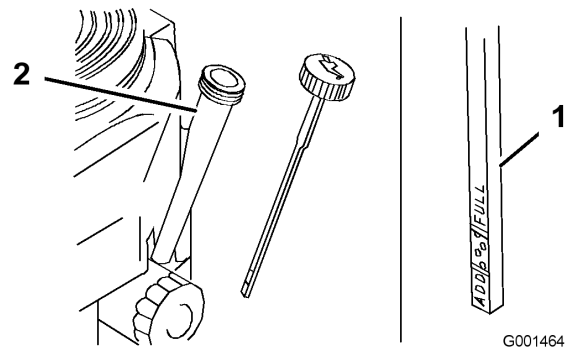

Figure 34
4. Clean around the oil dipstick (Figure 34) so that dirt cannot fall into the filler hole and damage the engine.
5. Unscrew the oil dipstick and wipe the end clean (Figure 34).
6. Slide the oil dipstick fully into the filler tube, but do not thread onto tube (Figure 34).
9. Slowly pour approximately 80% of the specified oil into the filler tube (Figure 34).